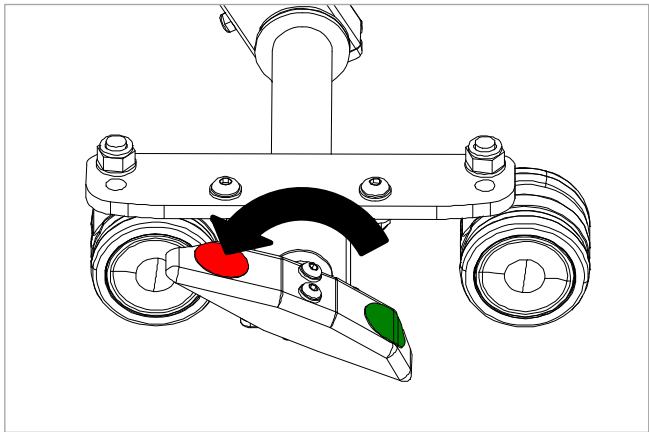

Figure 14.3
- 1. To lock the brake, press firmly downwards on the side of the pedal with the red label as shown in Figure 14.3 until it locates.